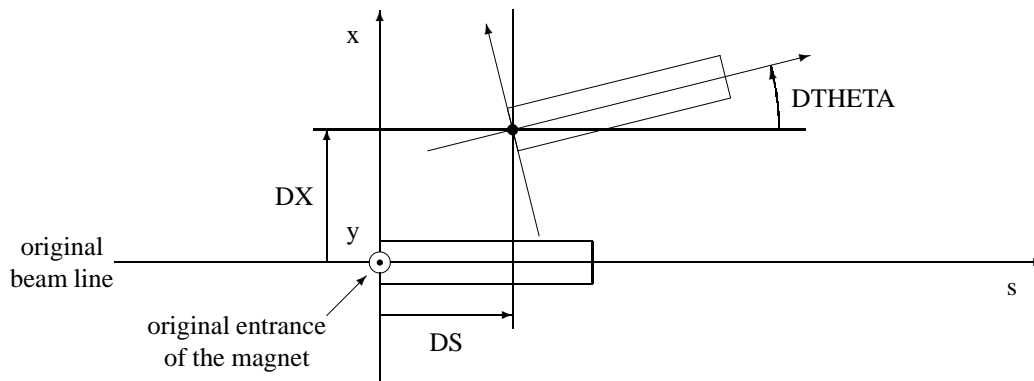

Figure 10.1: Example of Misplacement in the  $(x, s)$ -plane.
**DX** The misalignment in the  $x$ -direction for the entry of the beam element (default: 0 m). A positive value displaces the element in the positive  $x$ -direction (see Figure 10.1).
**DS** The misalignment in the  $s$ -direction for the entry of the beam element (default: 0 m). A positive value displaces the element in the positive  $s$ -direction (see Figure 10.1).
**DPHI** The rotation around the  $x$ -axis, (default: 0 rad). A positive angle (see Figure 10.1) gives a greater  $x$ -coordinate for the exit than for the entry.
**DTHETA** The rotation around the  $y$ -axis (default: 0 rad) according to the right hand rule (see Figure 10.1).